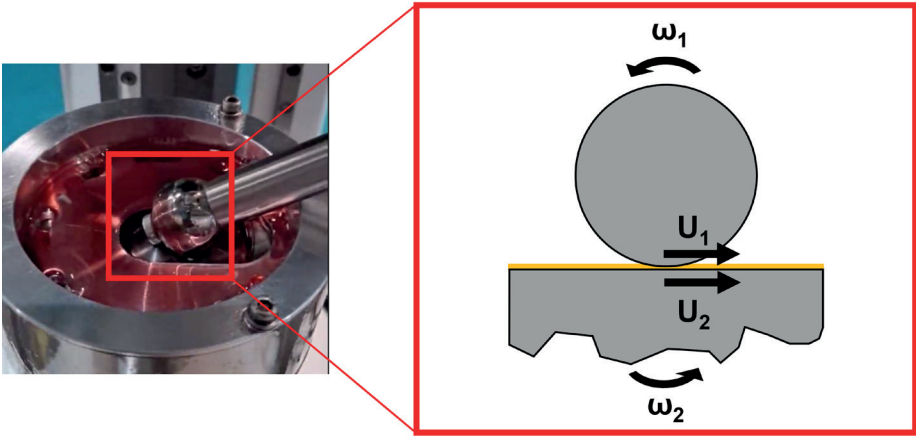

Figure 6: Modular Traction Tribometer: Ball-on-Disk configuration.
To introduce the most important parameters, let's consider a ball (1) on disk (2) configuration that are rotating at two different rpm resulting in two different sliding speeds (U1 and U2, respectively) at the contact. (Figure 6) The following parameters can be defined: